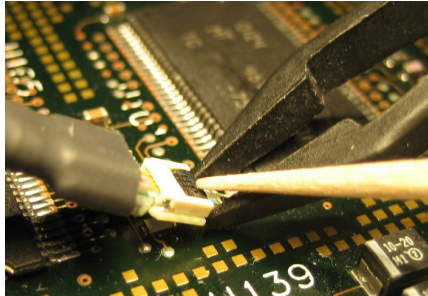

Figure 71 Use a Non-conductive Tool to Close the Latch
- 6 To make a measurement, connect a ZIF probe head to the ZIF tip. Open the tip's latch, insert the probe head into the ZIF socket, and close the tip's latch with a non-conductive tool. See **Figure 71**.